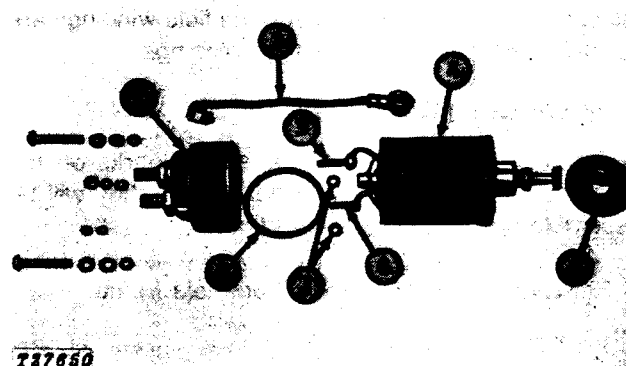

Fig. 29-Solenoid
Remove nuts from solenoid "S" terminal (2, Fig. 29) and from pull-in terminal (3). Then remove switch cover (1).
When installing switch cover (1, Fig. 29), place gaskets (4) on winding terminal, align main contact vertically, and place packing (5) on switch cover.